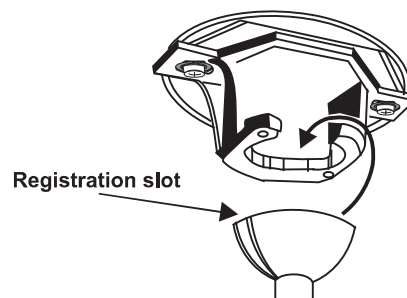

Fig.10
Step 7. Place the downrod ball into the hanger bracket socket. This will allow you to make the electrical connections. (Fig.10)